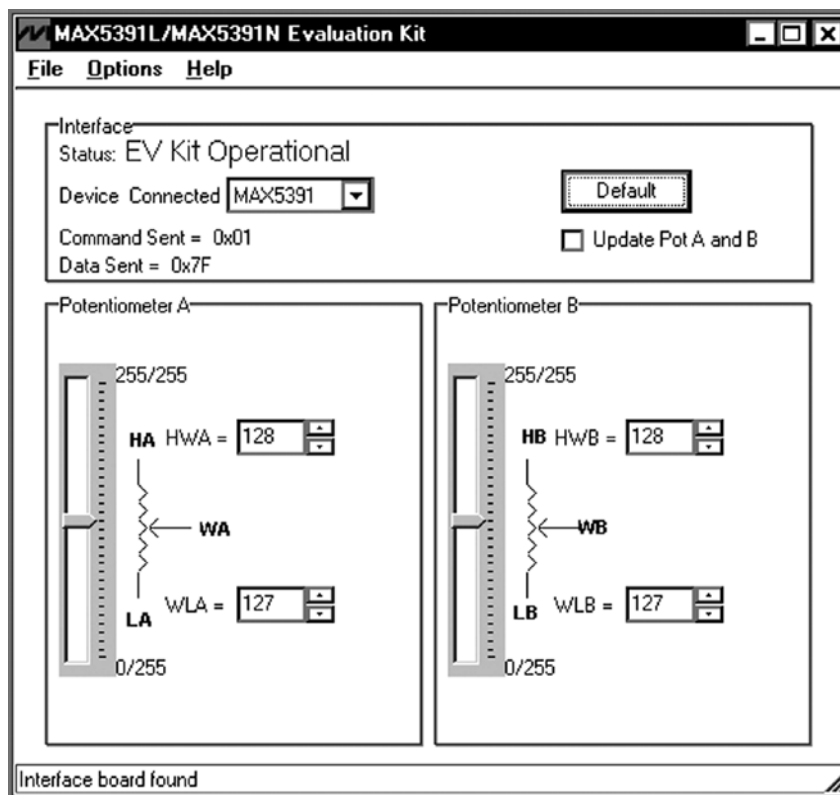

Figure 1. MAX5391L/MAX5391N Evaluation Kit Software Main Window
- 10) Using the **Device Connected** combo box, select MAX5391 from the list and then press the **Default** button. The EV kit software main window appears, as shown in Figure 1.
The EV kit software GUI shown in Figure 1 is a Windows program that provides a convenient means to control the MAX5391L and MAX5391N dual potentiometers. Use the mouse or press the Tab key to navigate through the GUI controls. The correct SPI write operations are generated to update the MAX5391L/MAX5391N internal memory registers when any of these controls are executed.
There are two methods for communicating with the EV kit, through the normal user-interface panel (Figure 1), or through the SPI commands available by selecting the **3-Wire Interface** utility from the main program's **Options | Advanced Users Interface** menu bar. A window is displayed (Figure 3) that allows SPI send/receive data operations.